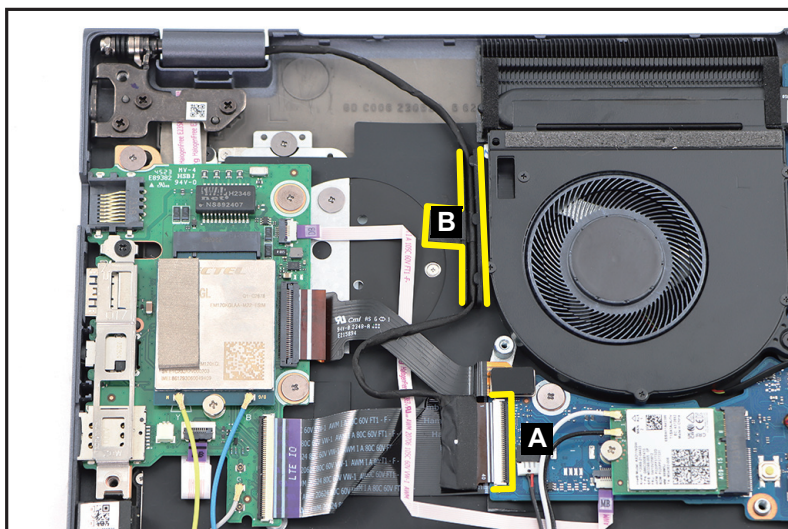

Figure 1-13. LCD Module Removal
1. Disconnect the sensor cable from the mainboard connector (A). Then detach the tape (B) and unroute the cable from the cable guides as shown in Figure 1-13.